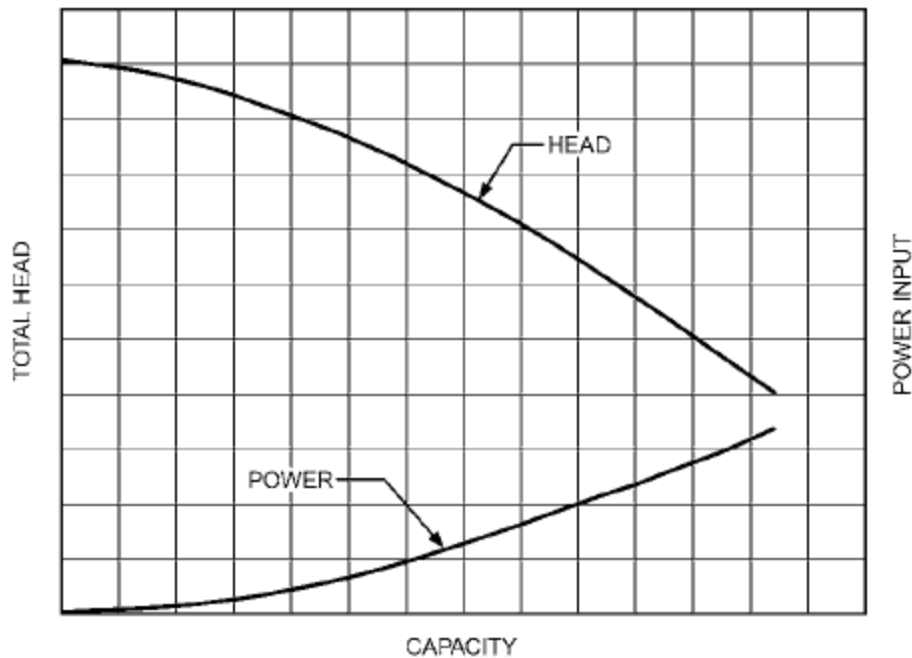

Figure 23 Typical Pump Water Power Increase with Flow
Figure 23 shows how water power increases with flow. **At other water temperatures or for other fluids,** Equation (4) is corrected by multiplying by the specific gravity of the fluid.